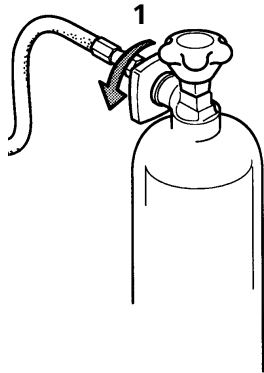

Fig. 29 Connecting the compressed air cylinders
- Connect the cylinders to the cylinder fitting, see 1, Fig. 29. Tighten the fitting properly. Ensure that the flexible hoses are not bent or damaged.